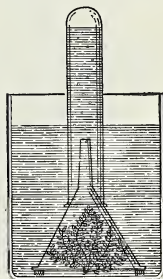

Fig. 351. To show that green plants give off oxygen in sunlight.
*Directions:* Nearly fill the jar with water. Put in the Elodea. Cover the plant with the funnel tube pointing upward. The water in the jar must cover the upper end of the funnel tube. Fill test tube with water, cover with thumb and invert over end of funnel tube so that it remains filled with water (Fig. 351). Stand it in the sun. Examine at hourly intervals. Repeat the experiment away from the sunlight.